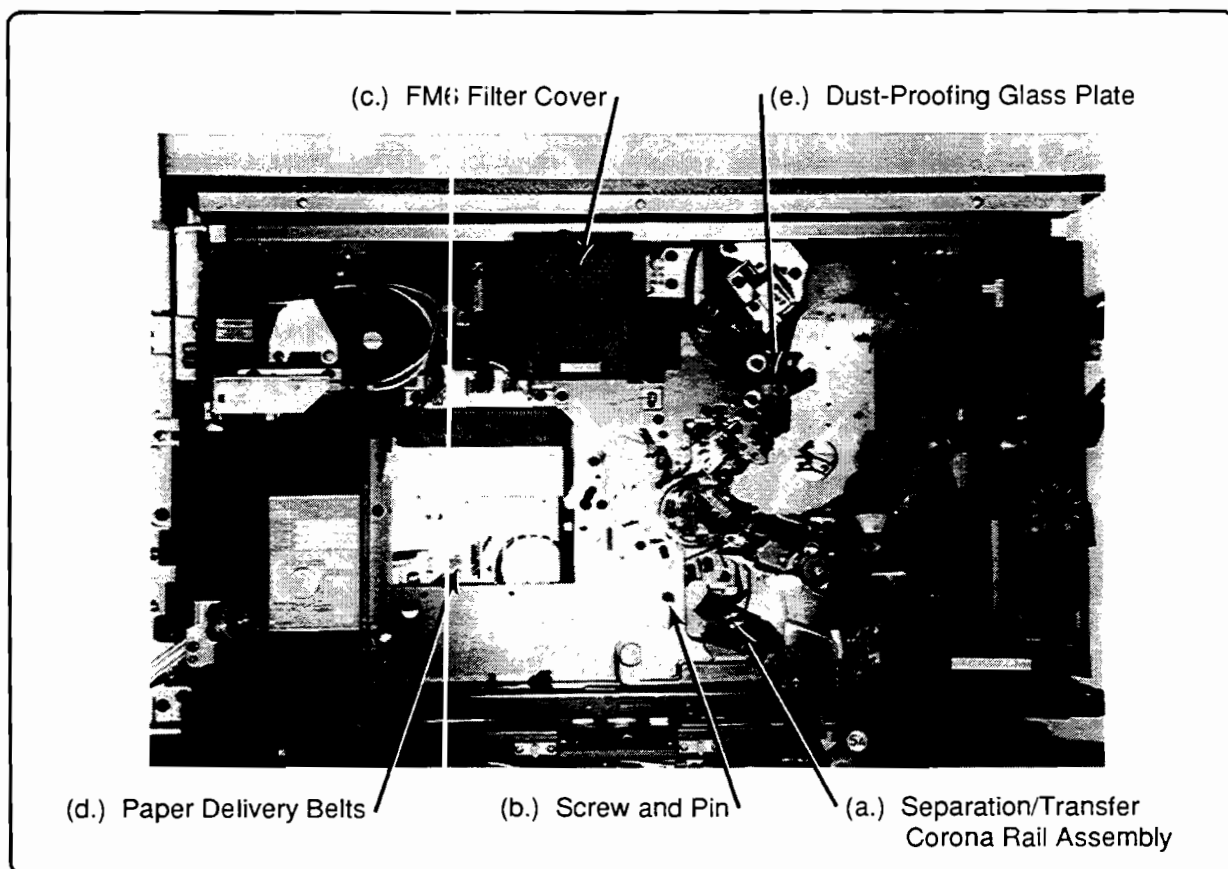

Figure 4-15. EP Area PM Items
- k. Separation/Transfer Corona Rail Assembly (Figure 4-15 (a)):
- i. Remove screw and pull the pin out (Figure 4-15 (b)).
3. Remove FM6 filter cover and vacuum the filter (Figure 4-15 (c)). If the filter cannot be cleaned, replace it (P/N RF1-042-030CN). Spin the fan to make sure it turns freely. Reinstall the cover.
4. Clean the four delivery belts located in the paper path between the Drum and Fuser (Figure 4-15 (d)):
10. **Carefully** pull out the Dust-Proofing Glass (Figure 4-15 (e)) and clean it with alcohol and lint-free wipes. Reinstall.